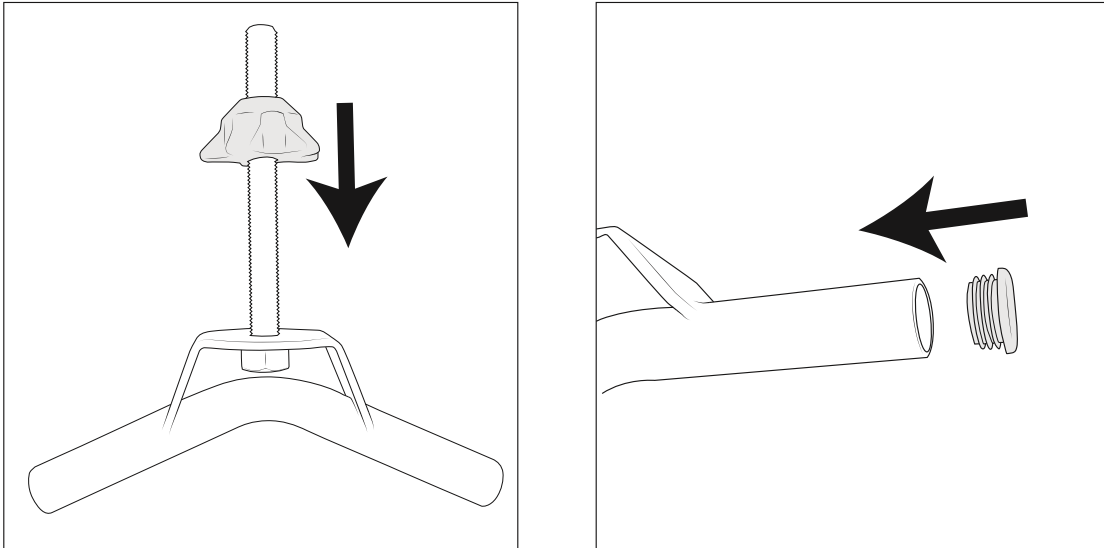

Figure 9
1. Slide molded spacer onto threaded portion of handle (fig. 9).
2. Install 1 1/2" end caps on to handle (fig. 9).